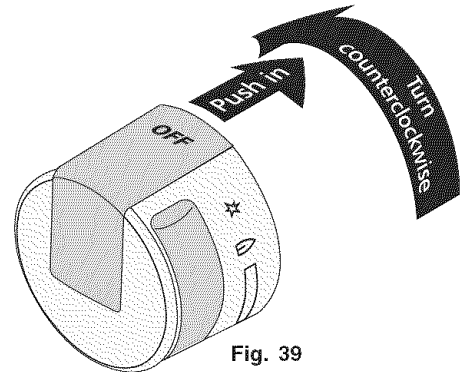

Fig. 39
1. To check for proper lighting, **push in and turn** surface burner knob **counterclockwise** to the ☆ (lite) position. You will hear the igniter sparking (Fig. 39).
2. The surface burner should light when gas is available to the top burner. Purge air from supply lines by leaving knob in the ☆ (lite) position until burner ignites. Each burner should light within four (4) seconds in normal operation after air has been purged from supply lines.